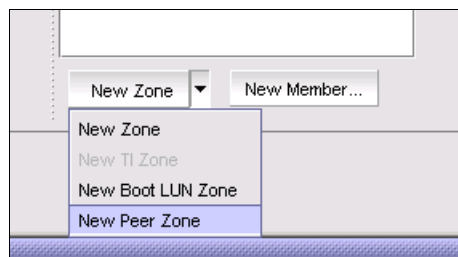

Figure 10-7 New Peer Zone pull-down option
3. Select **New Peer Zone** from the **New Zone** menu. Figure 10-7 shows the New Peer Zone option.